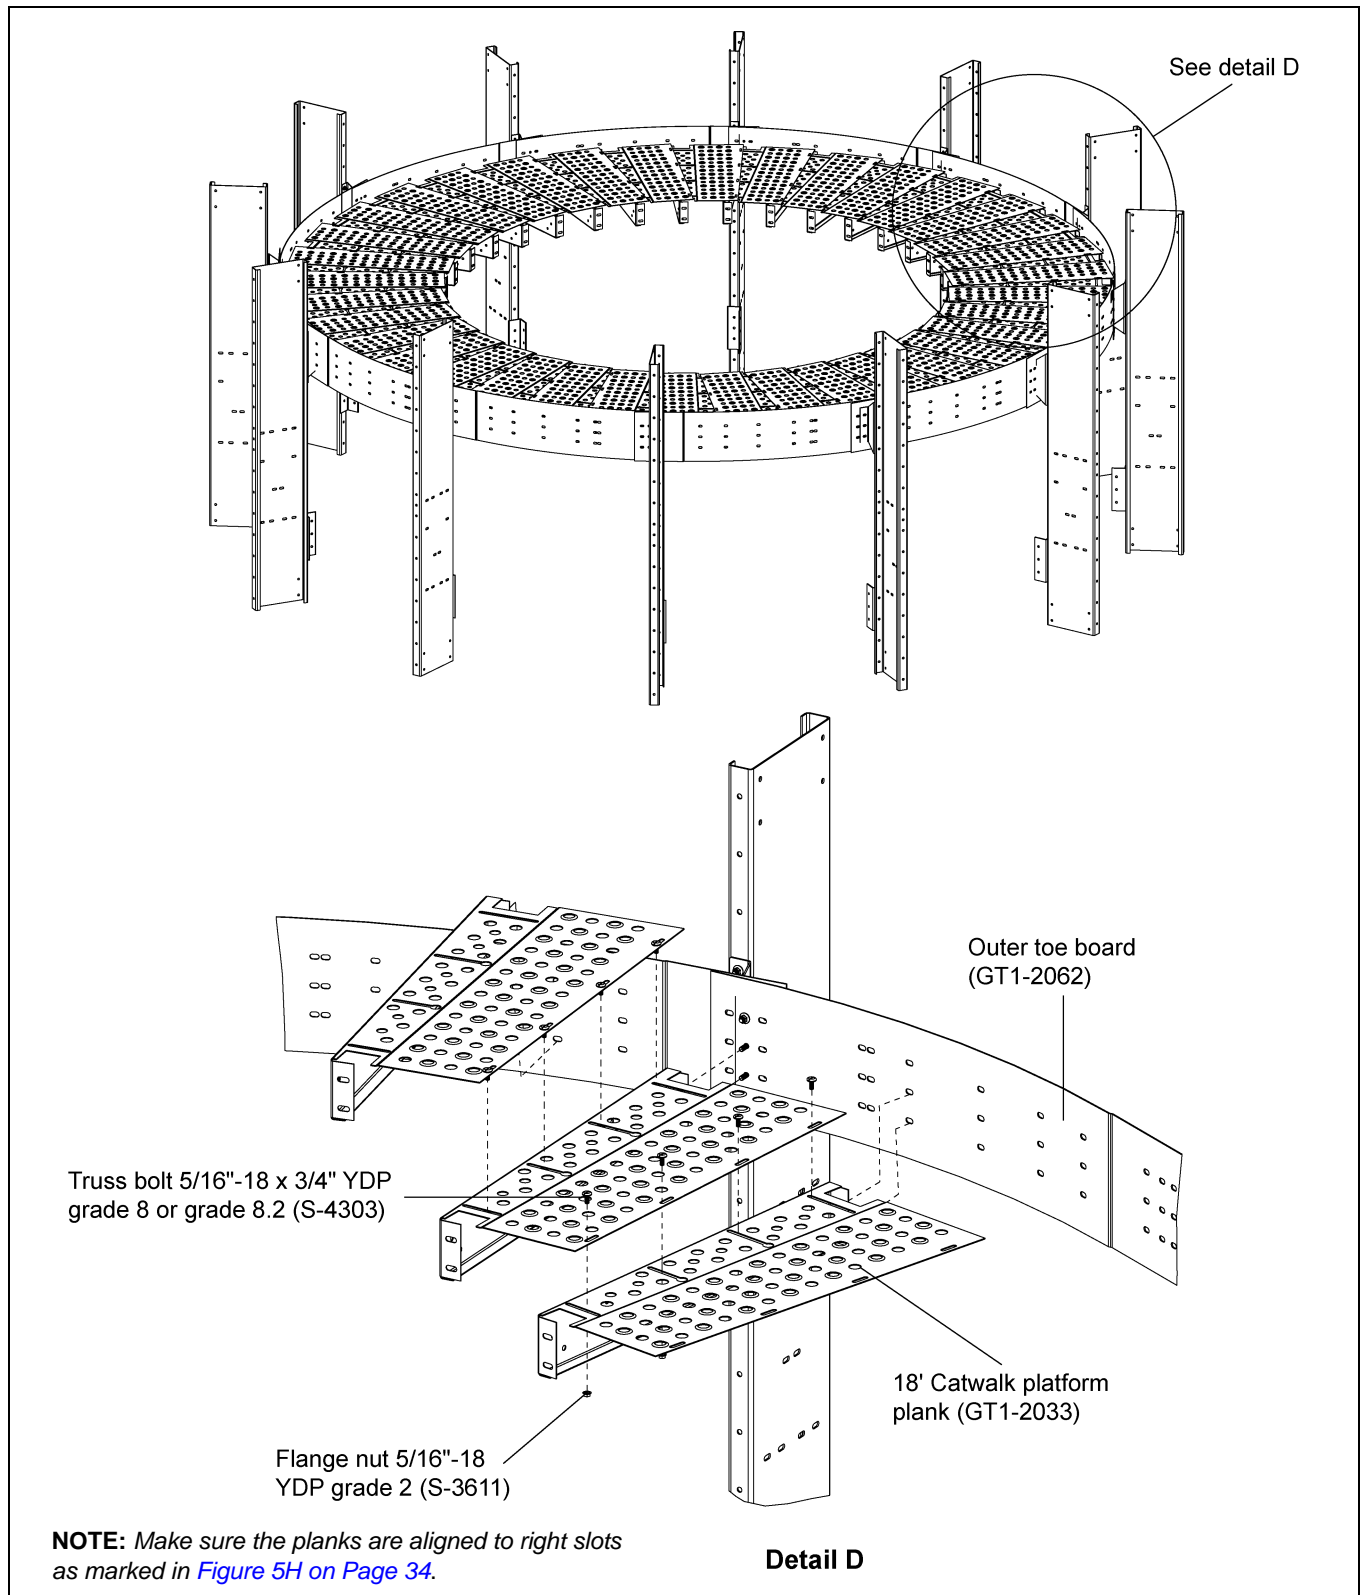

Figure 5F
1. Install the planks (GT1-2033) to the outer toe board (GT1-2062) using 3/8"-16 x 1" YDP grade 8 or grade 8.2 bolts (S-7927) and 3/8"-16 ZN grade 5 nuts (S-968). (See Figure 5F.)